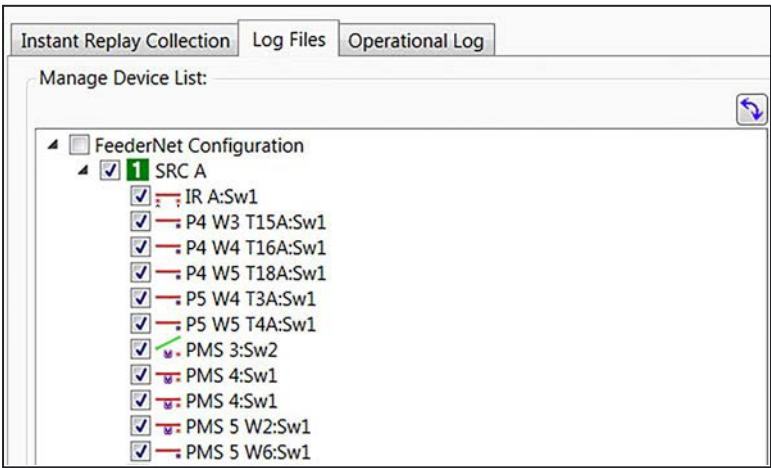

Figure 117. The *Log File Device Selection* dialog box.
STEP 6. Use the check boxes on the left side where all of the devices are shown and select all the devices that participated in the event. Add a single device or add all devices belonging to a specified FeederNet. See Figure 117.